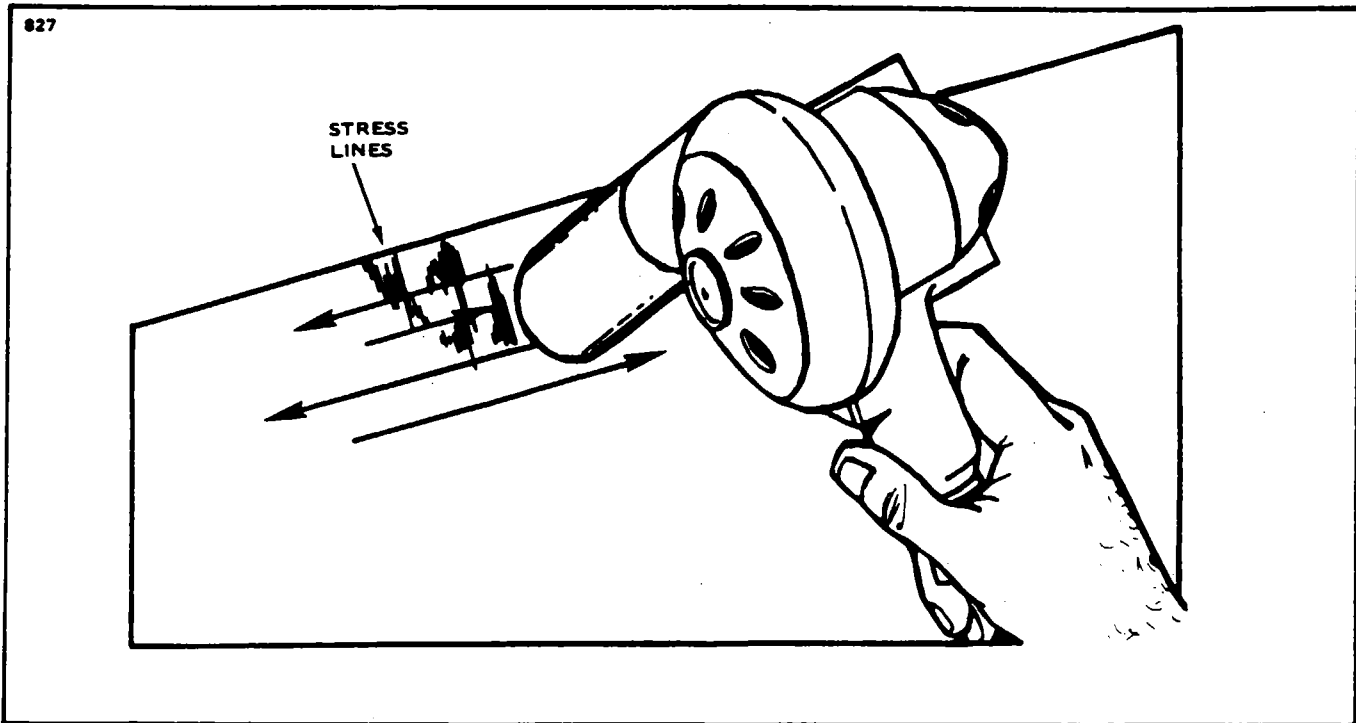

Figure 4-29. Repair of Stress Lines
- f. Stress Lines: (Refer to Figure 4-29.)